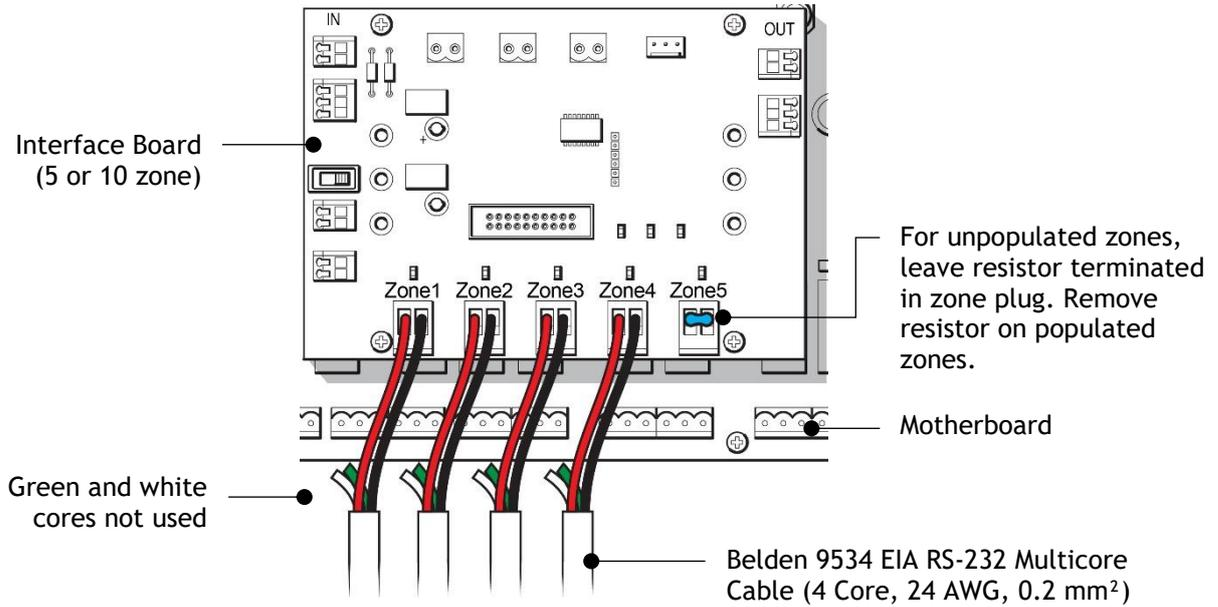

Figure 6: Sensor Cable Connection to Interface Board
1. Ensure that the unit is powered OFF. Connect the **leader cable** into the **sensor input terminals** on the **interface board**. Do not connect the green or white cores (Figure 6).
1. Ensure that the unit is powered OFF. Connect the **leader cable** into the **sensor input terminals** on the interface board. Do not connect the green or white cores (Figure 6).
3. Sensor connections are as per the instructions for the master panel (Figure 6).